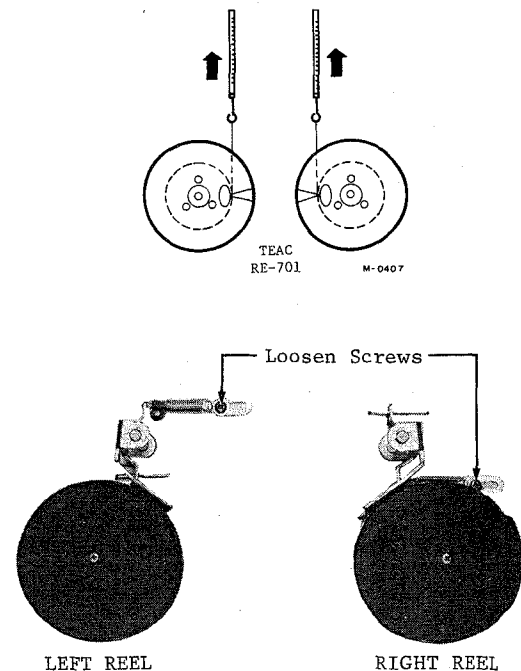

Fig. 6-2 Torque Measurement and Adjustment Locations
1. Place the empty reel (RE-701) and spring scale on the reel as shown in Fig. 6-2.